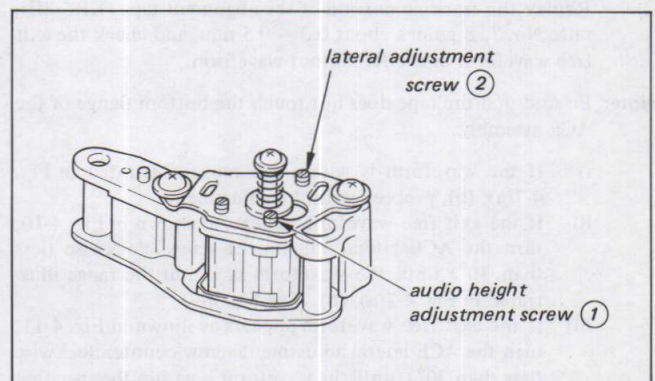

Fig. 4-15.
- 2) Turn the audio head height adjustment screw ① and the lateral adjustment screw ② (Fig. 4-15) until the audio output waveform amplitude is maximum.